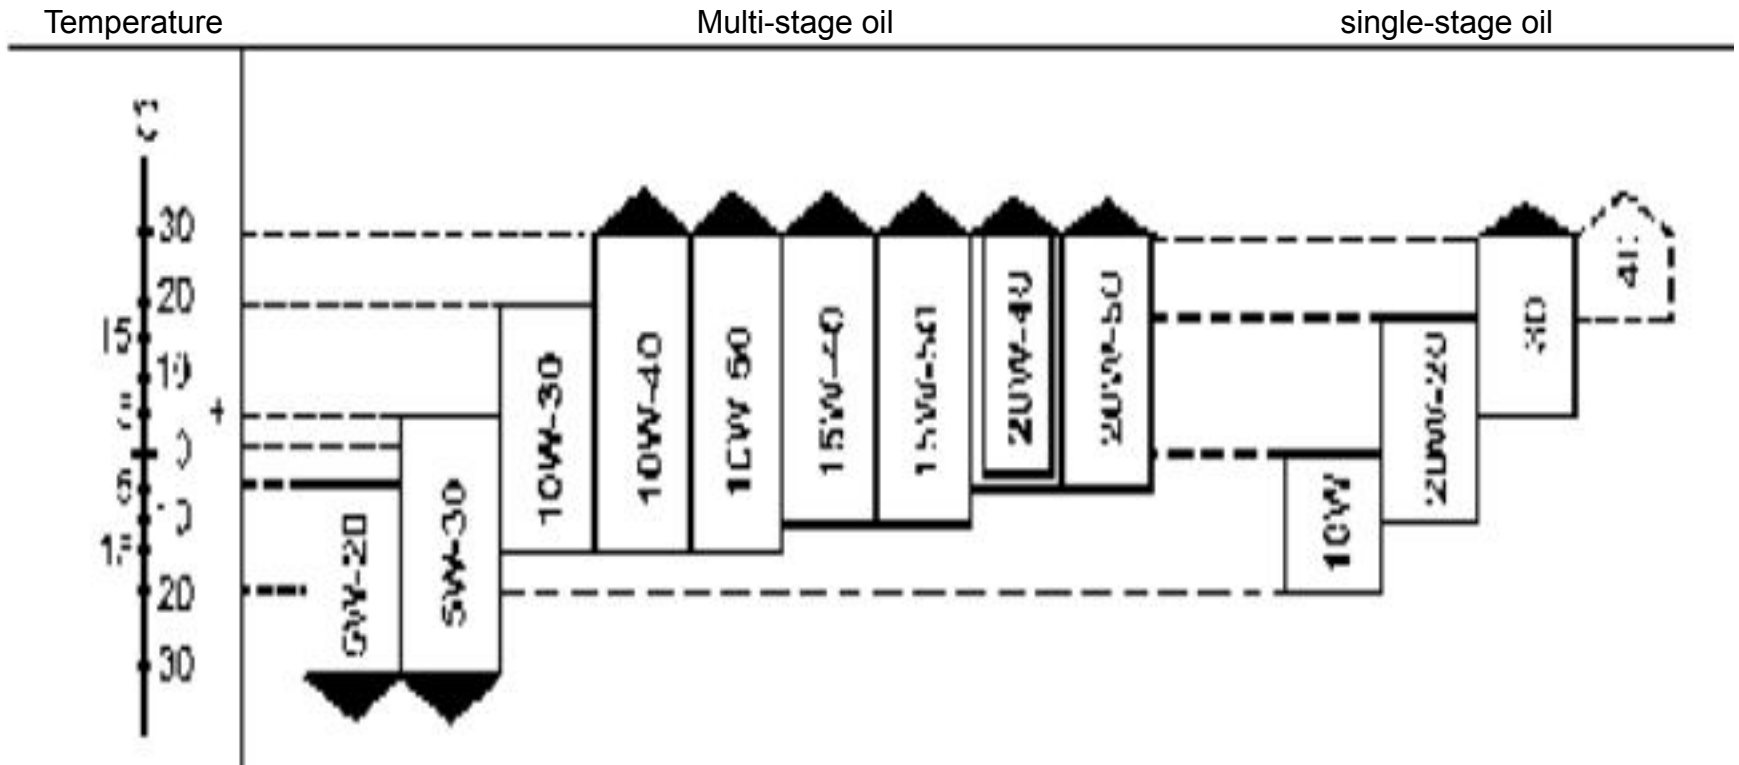

Fig. 2-54 Comparison between engine oil viscosity number and service temperature
- According to the internationally accepted SAE(US Society of Automotive Engineers) standard, engine oil is usually graded as SAE5, 10W, 15W, 20W, etc. on the basis of -18°C ($^{\circ}\text{F}$)viscosity index, and as SAE10, 20, 30, 40, etc. on the basis of 90°C (210°F). The former are for winter use, and the latter for summer use. The bigger the number, the greater the viscosity of the oil is. Oil that can be used in both winter and summer is usually defined as SAE15W/40 (as an example), and complies with winter viscosity index of SAE15W and summer viscosity index of SAE40. Selection of engine oil viscosity grade depends on the ambient temperature of use without strict requirement. Fig. 2-54 shows a recommended relationship between oil number and temperature of use.